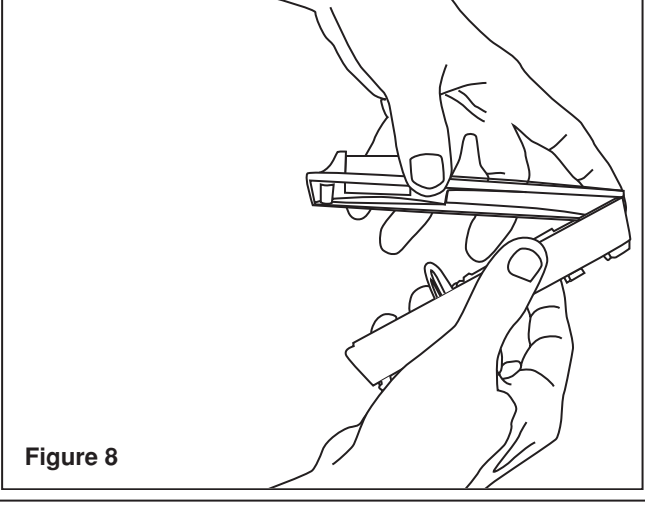

Figure 8
6. Replace the top edge of the front cover and then close it on the sensor (see FIGURE 8).